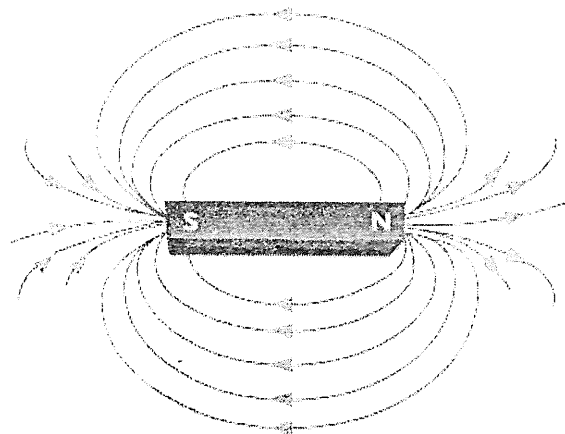

FIG. 3.1 : MAGNETIC FIELD
- The magnetic fields are shown in Fig. 3.1 as lines in space.